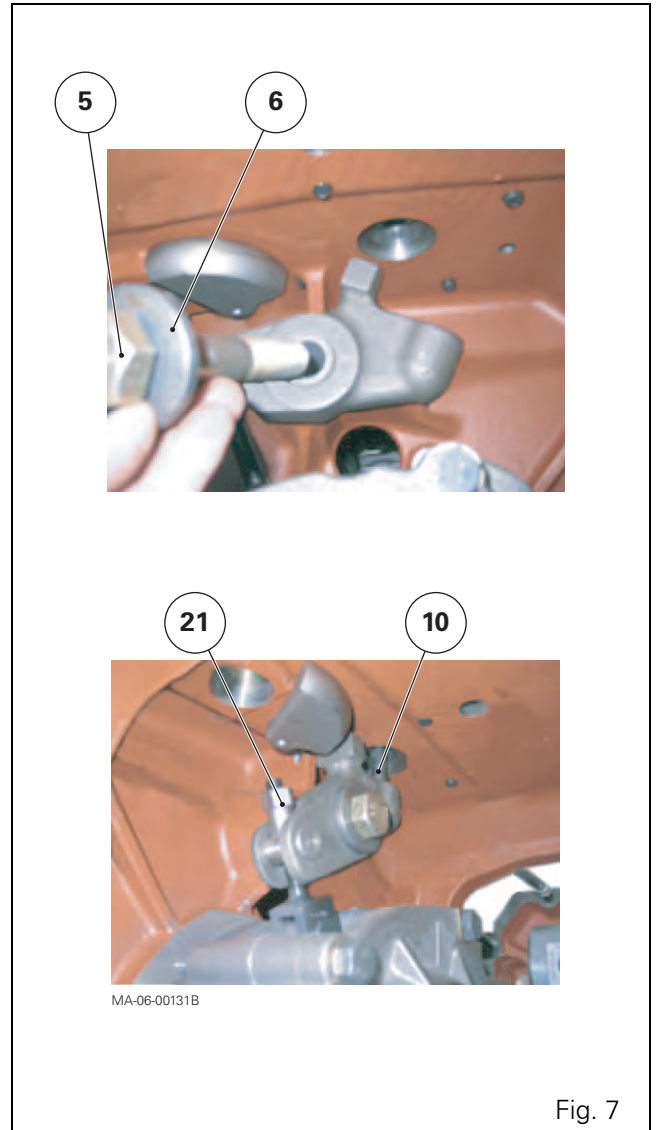

Fig. 7
31. Lightly smear the thread of the M20 screw (5) with Loctite 270 or equivalent. Fit the washer (6) onto the screw and slide the screw into the hollow actuator lever pin (Fig. 7). Tighten the screw to 230-250 Nm.
32. Refit (Fig. 7):
- the push rod (10) (tractors fitted with a ParkLock device);
- the nut (21).